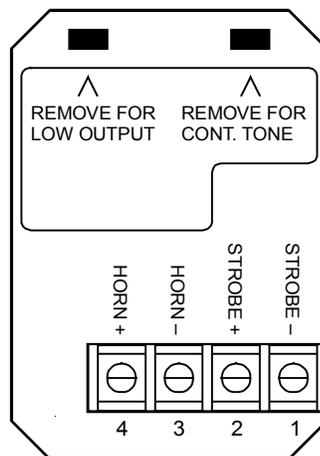

Figure 1: Jumper setup and terminal block
1. The unit is set to 104 dBA at the factory. To set the output to 99 dBA, remove the low output jumper from the circuit board on the rear of the unit (see Figure 1).
2. The unit is set to temporal tone at the factory. To set the output to steady tone, remove the continuous tone jumper from the circuit board on the rear of the unit (see Figure 1).